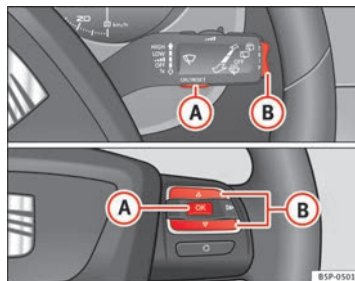

Fig. 40 Rocker buttons A and B. Steering wheel controls.
- When the ignition is on, briefly press button ⇒ fig. 40 **A** on the windscreen wiper lever to change from one memory to another or press button **A** on the steering wheel controls ⇒ fig. 40.